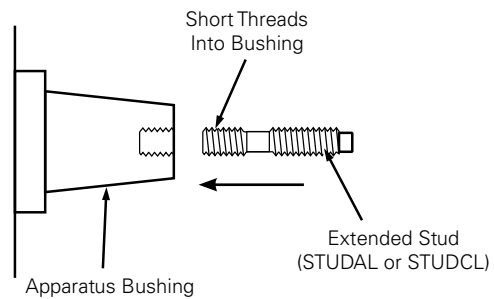

Figure 25. Line illustration of bushing stud installation.
- Thread the shorter threaded end of extended stud into the apparatus bushing until hand tight. (Refer to Figure 25).